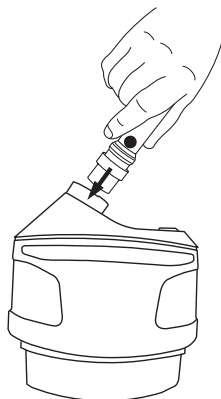

Fig. 13a
- Insert the TR-970 air flow indicator into the outlet on the TR-300 motor/blower unit. If the breathing tube is in place it must be removed to allow the air flow indicator to be inserted (Fig. 13a).